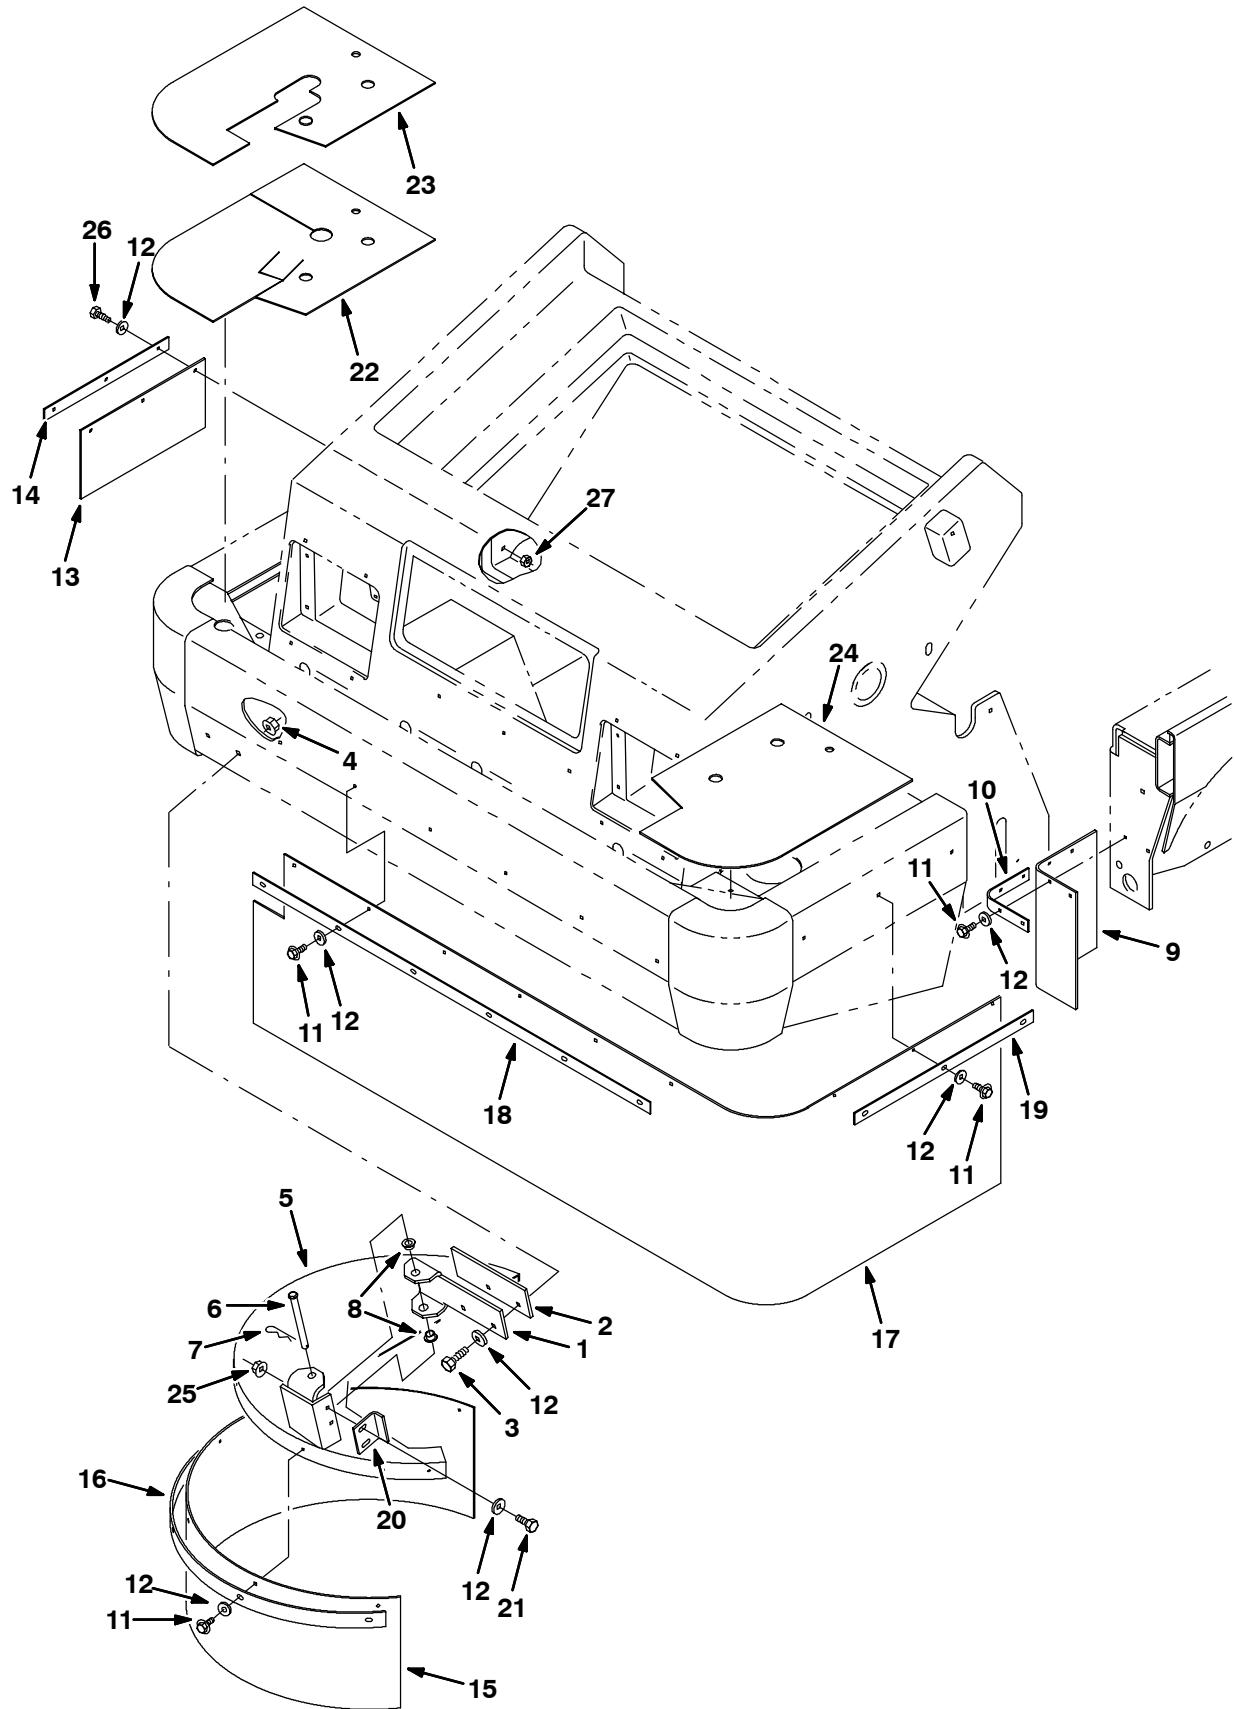

FIG. 6 - Side Brush Dust Control Kit
5. Install two wheel pocket skirts (9), (one for each wheel pocket), and two wheel pocket retainer plates (10) on wheel pocket frame with eight hexforming screws (11) and eight flat washers (12). (Refer to Fig. 6)
8. Install front skirt (17) and retainer plate (19) on left side of bumper with three hexforming screws (11) and three flat washers (12). (Refer to Fig. 6)
9. Pull front skirt (17) around left corner and across front of bumper. Then position top edge of skirt at the same height as the left side. Mark hole locations using skirt for a template. (Refer to Fig. 6)
11. Install front skirt (17) on front of bumper with retainer plate (18) six hexforming screws (11) and six flat washers (12). (Refer to Fig. 6)
13. Install bracket (1) on right side of front bumper with two hex screws (3), spacer plate (2), and two hex nuts (4). (Refer to Fig. 6)
15. Install stop angle (20) on cover (5) with two hex screws (21) and two flat washers (12). Do not tighten hardware until cover assembly is installed on machine. (Refer to Fig. 6)
16. Install cover skirt (15) and retainer (16) on cover (5) with three hexforming screws (11) and three flat washers (12). (Refer to Fig. 6)
17. Install two flange bushings (8) on bracket (1). Then install cover assembly on bracket, threading clevis pin (6) through bracket and flange bushings. Hold clevis pin in place with cotter pin (7). (Refer to Fig. 6)
18. Install flap from front skirt (17) and remaining hole in cover skirt (15) with one hexforming screw (11) and one flat washer (12). (Refer to Fig. 6)
19. Install right and left foam pieces (22 or 23, 24) on sides of hopper. (Refer to Fig. 6)
20. Torque all hexforming screws (11) for mounting skirts 7 – 10 ft lb. (Refer to Fig. 6)